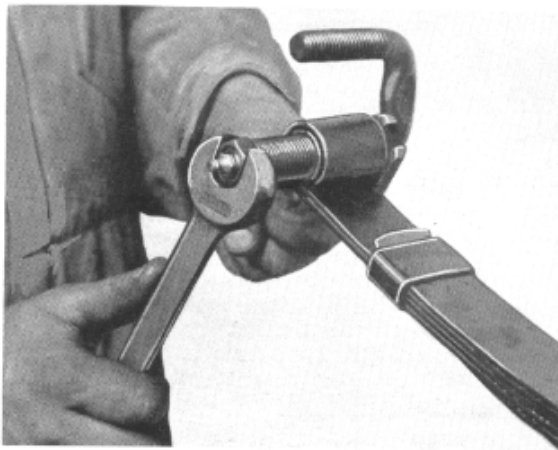

Figure 8
47. Insert one end of spring shackle through main leaf eye and place the spacer (J-524) between the spring eye and shackle as shown in Figure 8.